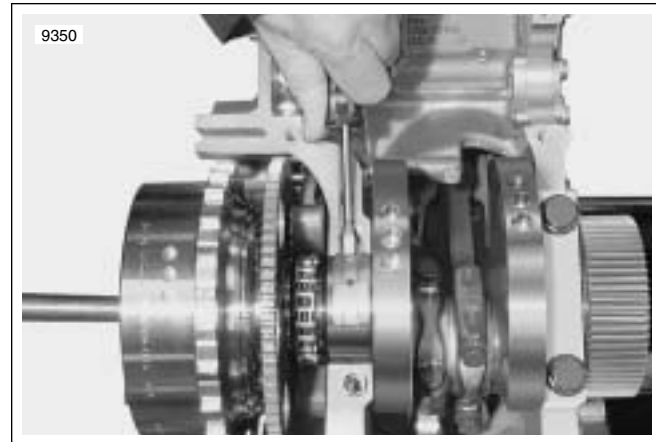

Figure 3-182. Cam Drive Side Bearing Removal
2. See Figure 3-182. Insert Snap-on # 2050 Prybar in rotor bolt hole.
4. See Figure 3-182. Gently lift crankshaft to take weight off the bearing.